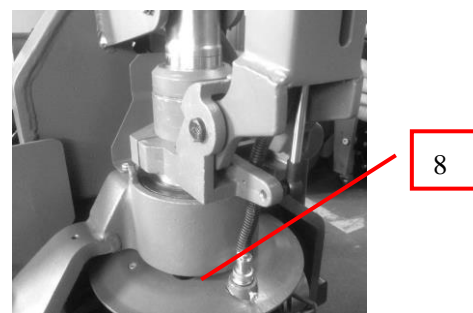

Fig.20
- (Fig.20) Tighten the nut 8 of the wiring harness connector.